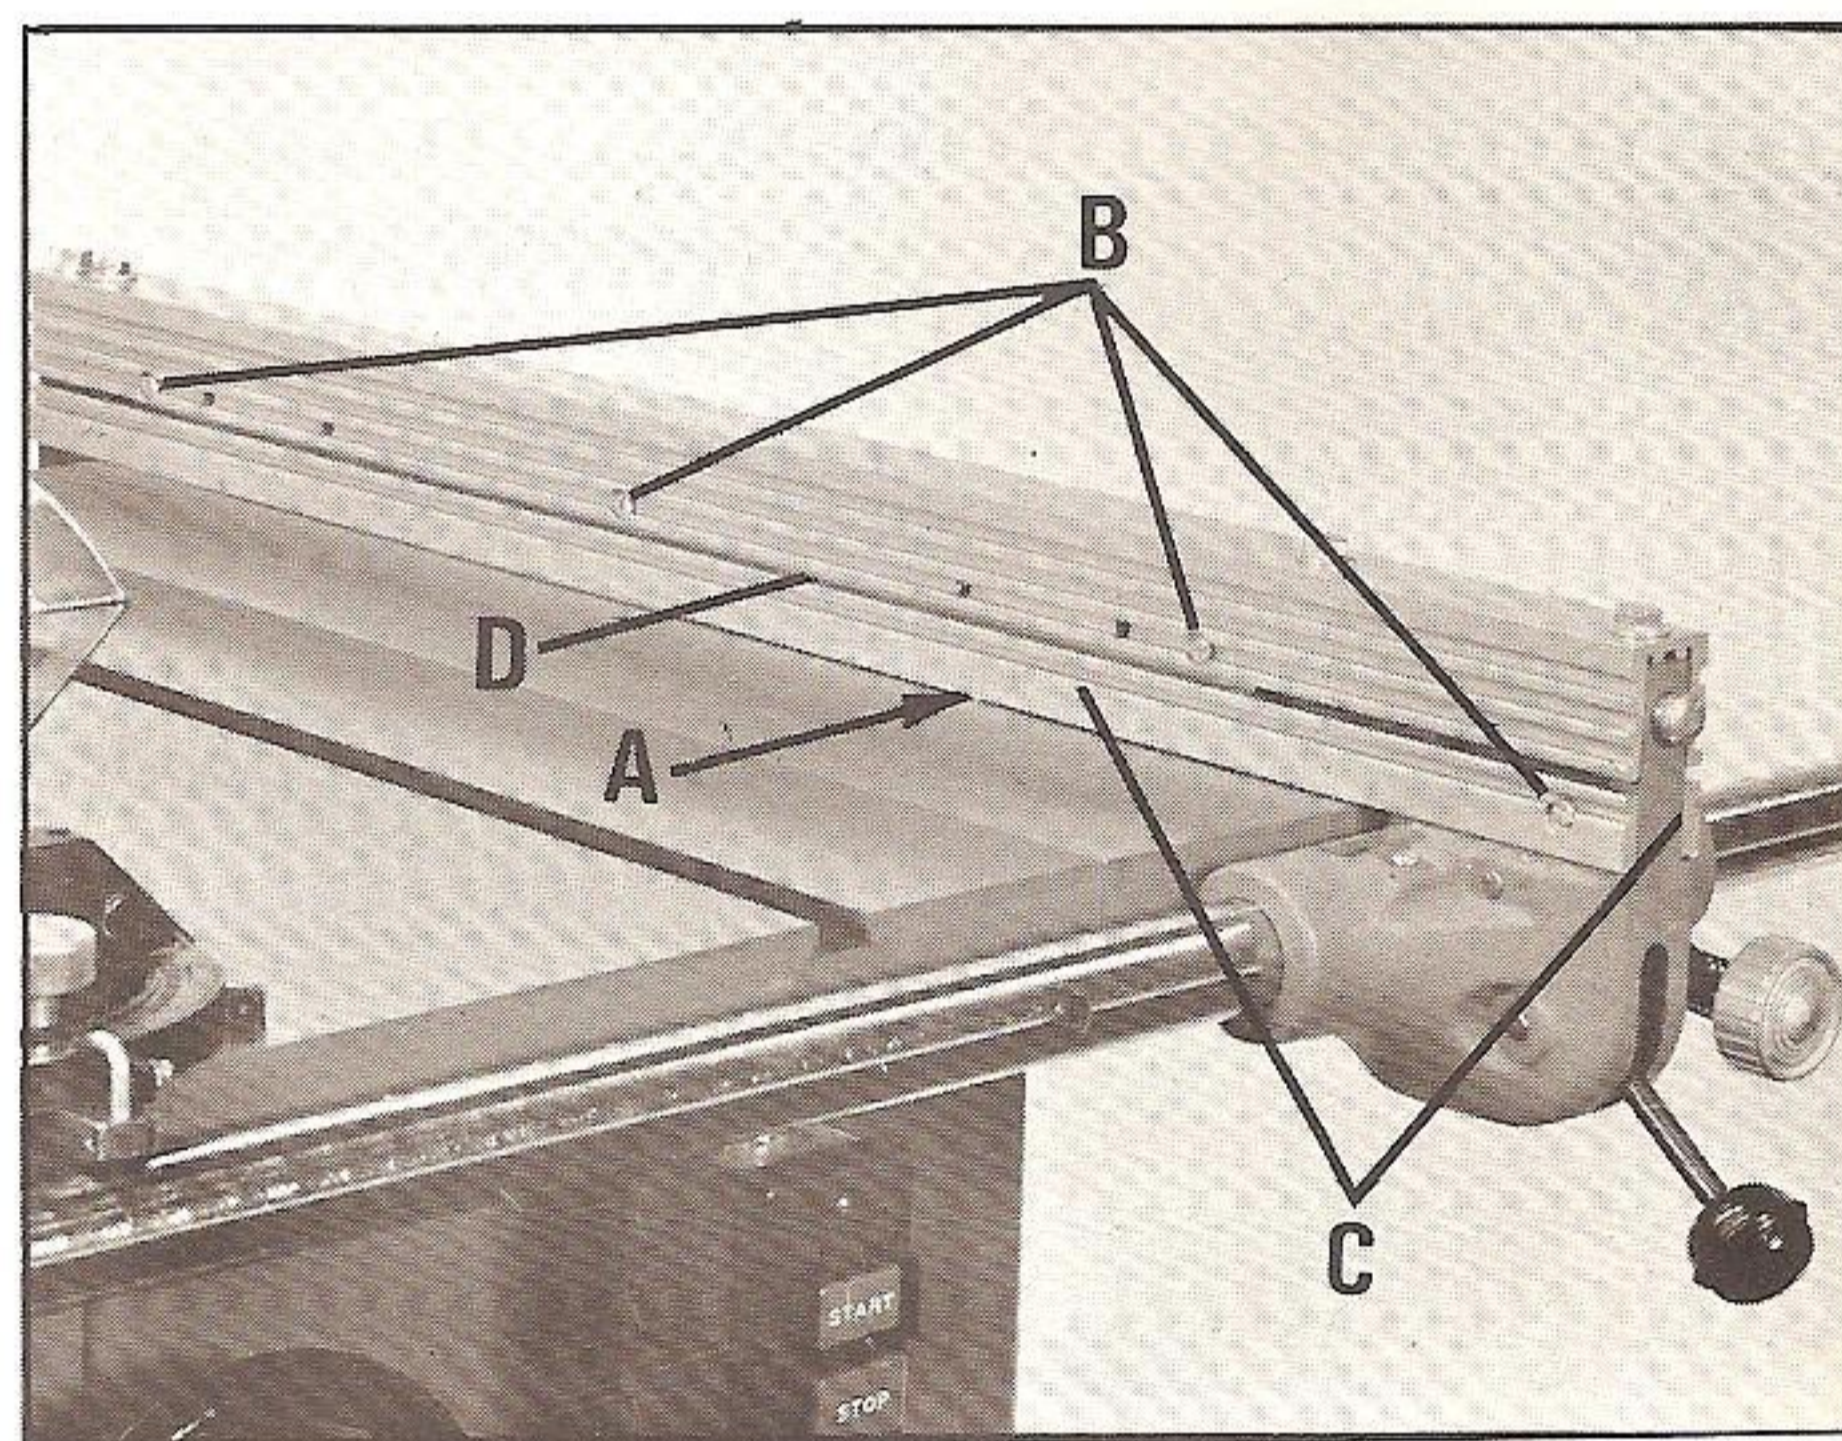

Fig. 29
1. Loosen four screws (B) Fig. 29.
2. Push the lower section of the rip fence (C) Fig. 29, down flush (A), against the saw table. If necessary, insert a screwdriver in slot (D) between the upper and lower sections of the rip fence to help separate them.
3. Tighten four screws (B) Fig. 29.